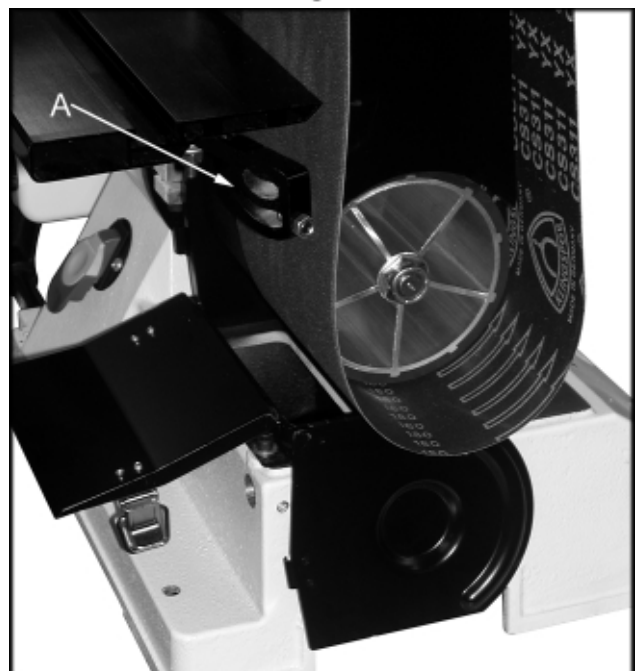

Fig. 9
4. Pivot the trunnion assembly (A, Fig. 9) out of the way.